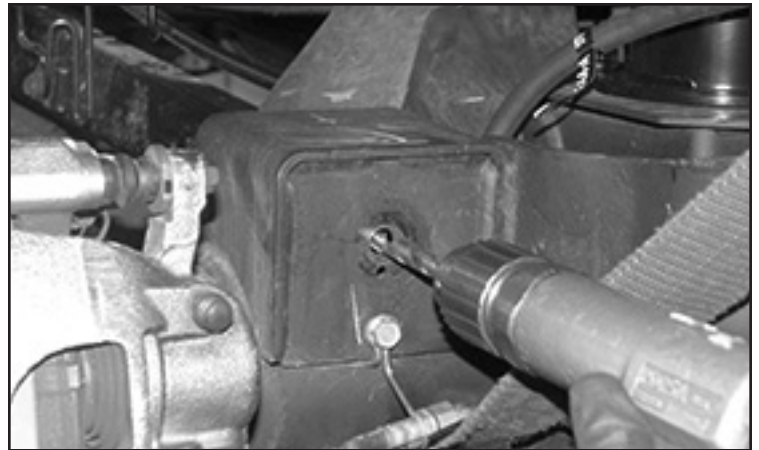

FIGURE 50 - STEP 51
51. Next, using a $\frac{1}{2}$ " bit, drill the old brake line bracket hole to allow for the new track bar support bracket in a future step. **SEE FIGURE 50**